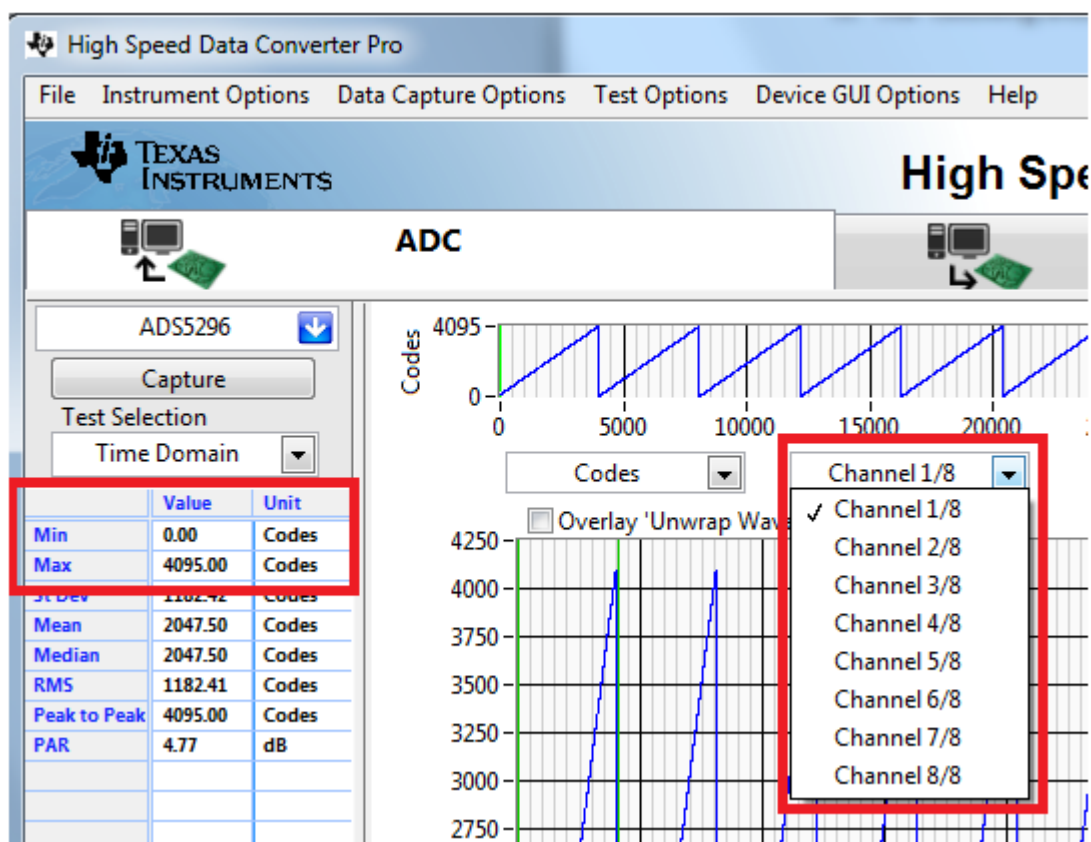

Figure 34. RAMP Capture by Channel
- By default, *Channel 1/8* is the first channel displayed. Use the drop-down menu shown in Figure 34 to view all 8 channels and confirm that a saw tooth waveform has been captured. Also confirm, in the menu to the left side, that the min code is 0 and the max code is 4095, corresponding to a 12-bit ADC.